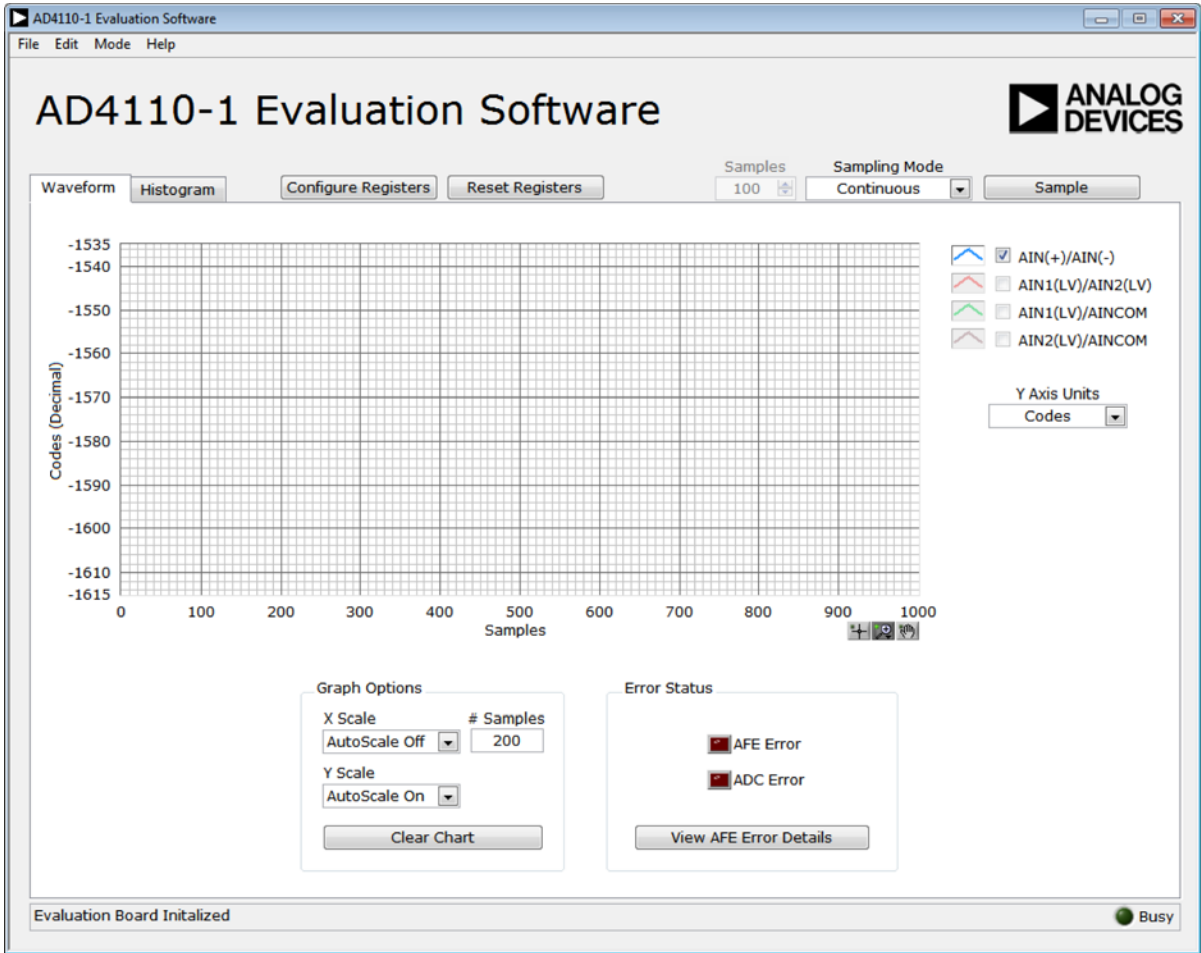

Figure 17. AD4110-1 Evaluation Software Main Window
1. Click **Start, All Programs, Analog Devices, AD4110-1\_SDPZ**, then **AD4110-1**. The main window of the software displays (see Figure 17).
The main window (Figure 17) shows the significant control buttons and indicators of the AD4110-1 evaluation board software. Using the demonstration modes automatically configures the AD4110-1 device for connection to one of the sensors. The main window functionality adapts to the chosen demonstration mode.